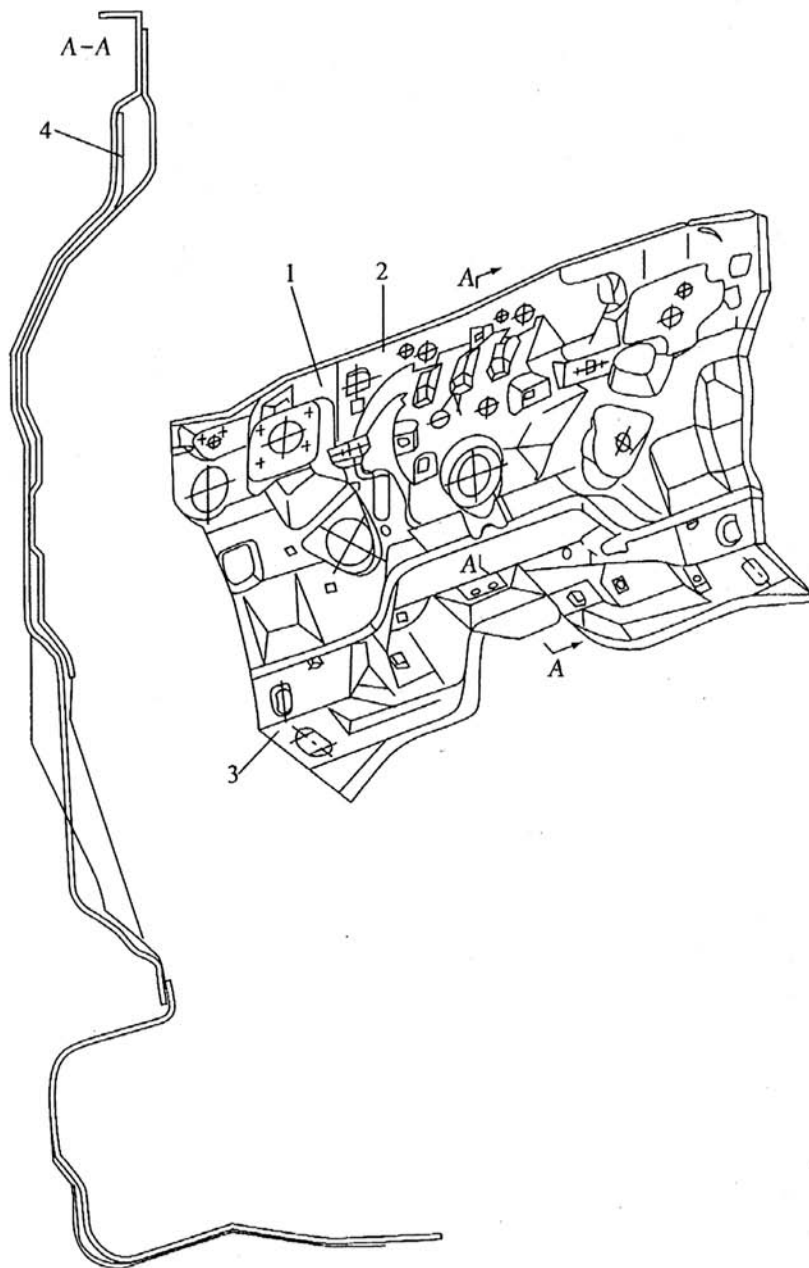

Figure 5-24 COWL
① Take measures on the structure of the body
- Increasing the thickness of the cowl is very effective to insulate sound. The cowl is adopted sandwich structure, (Figure 5-24) that is, the cowl is welded by two steel plates (Cowl and heat insulating board), and in the interlayer of the 2 plates lies a heat insulating pad (the material of it is asphalt piece).